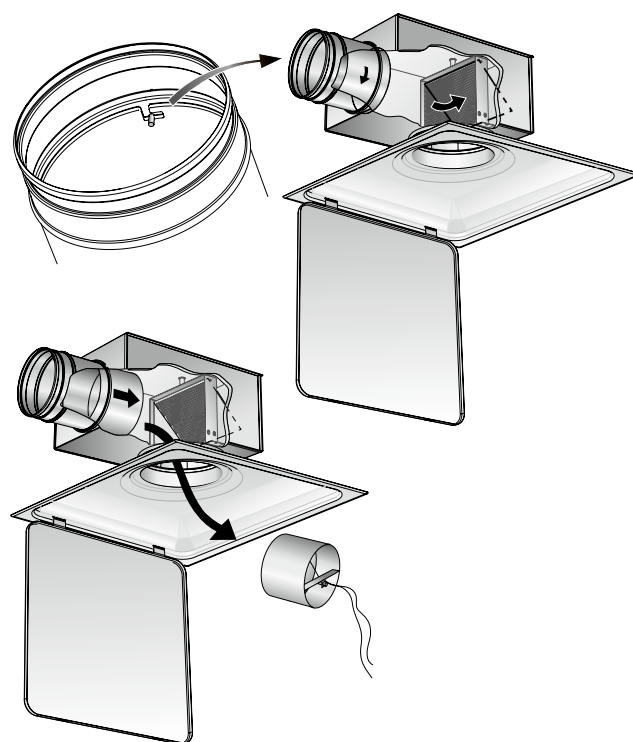

Figure 5. Dismantling the damper when using ALS and REACT ALS commissioning box.
- The duct system is cleaned by opening the diffuser face. If a REACT ALS or ALS commissioning box is used, pull the distributor plate aside and then grip and twist the damper unit from of its mounting. See figure 5.